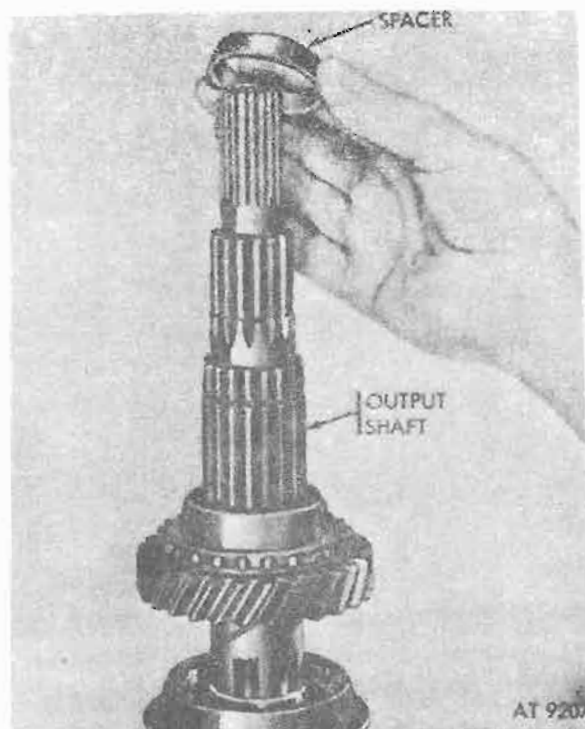

Figure 8-74. Output shaft bearing spacer.
i. Remove bearing spacer from output shaft (fig. 8-74).